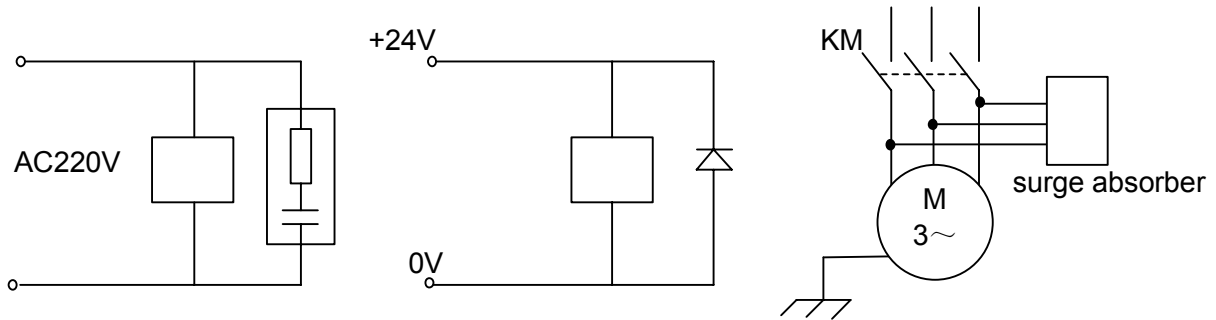

Fig. 1-3-1
- ① Keep CNC far away from the interference source (such as inverter, AC contactor, static generator, high pressure generator and sectioning for power line, etc.)
- ② The power to CNC should be supplied via insulation transformer; the machine installed with CNC should be grounding; the CNC and drive unit should be connected with independent grounding wire via grounding point.
- ③ Interference suppression: connect the RC circuits parallelly at two ends of the AC coil; the RC circuit should be installed to the inductive load as near as possible; fly-wheel diode should be inversely connected in serial at two ends of the DC coil ; surge absorber should be connected in parallel at the winding head of AC motor (see Fig. 1-3-1).